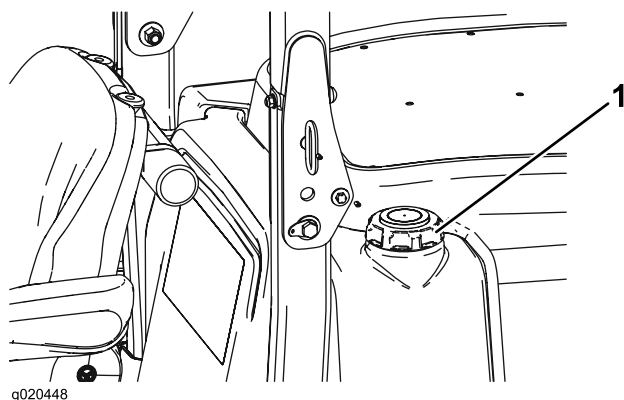

Figure 10
3. Remove cap from the fuel tank (Figure 10).